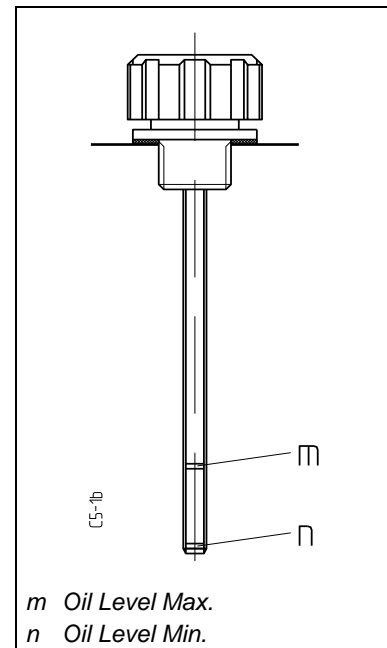

Fig. 5.2: Oil Dipstick
- Shut off the motor (A).
- Unscrew the oil dipstick (1) and wipe off the oil.
- Screw in the oil dipstick (1) and unscrew it again.
- The oil level should be between max. and min. (Fig. 5.2).